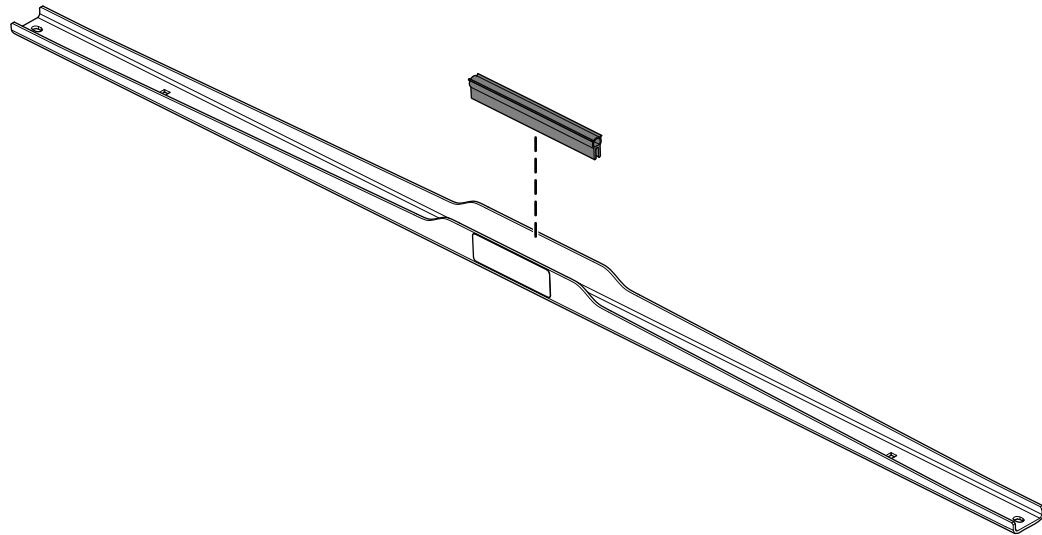

Figure 16
1. Install the trim seal onto the tube-mounting bracket (Figure 16).